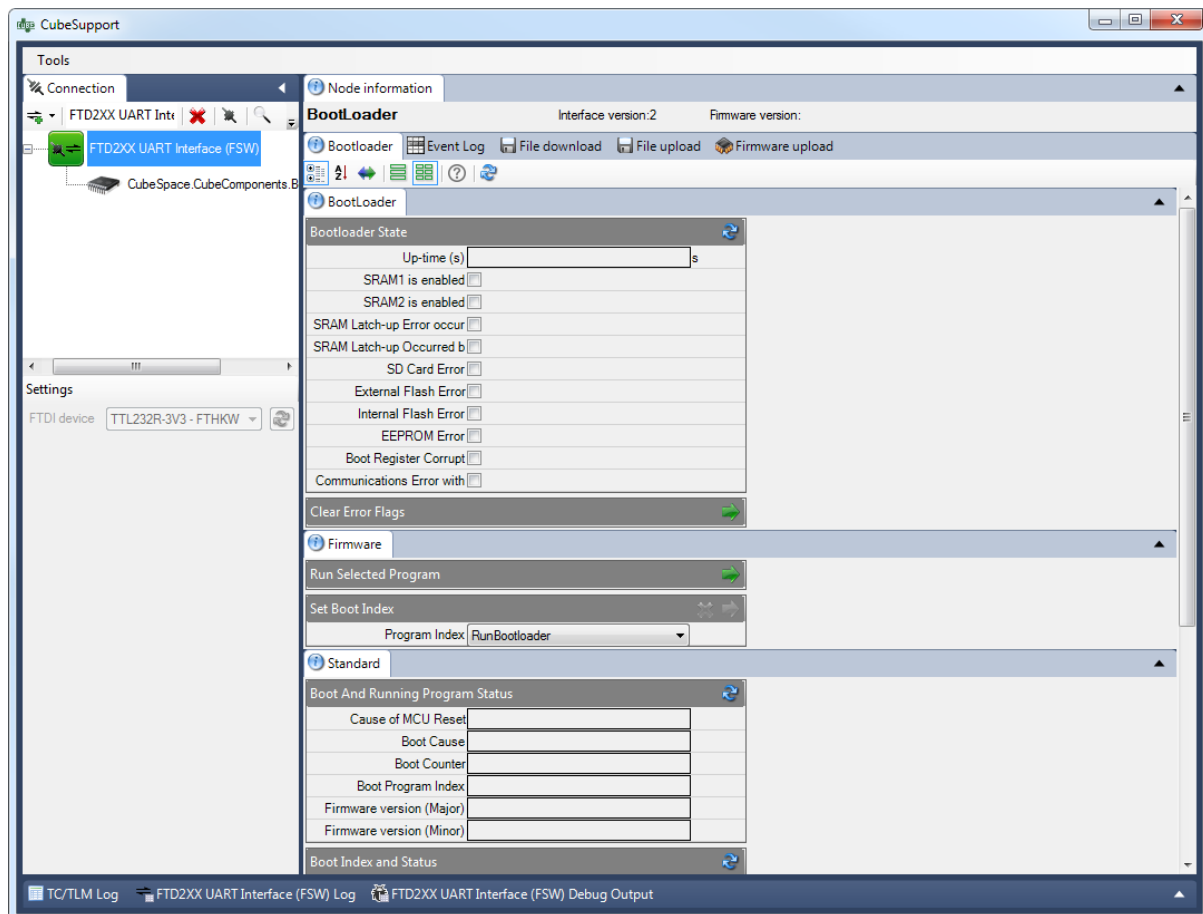

Figure 3 – Bootloader UI
3. Connect to the CubeComputer through the UART. The CubeSupport user interface should display the bootloader interface as shown in Figure 3.